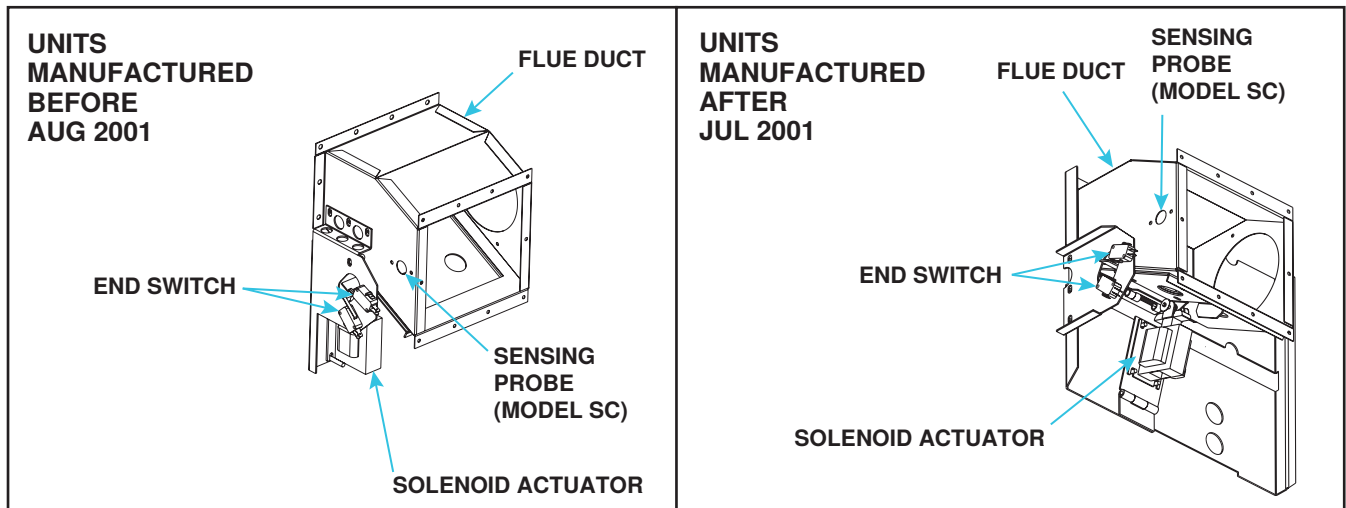

Figure 10. Existing Flue Duct and Damper Assembly
4. Remove existing flue duct and damper assembly with solenoid actuator (see Figure 10):